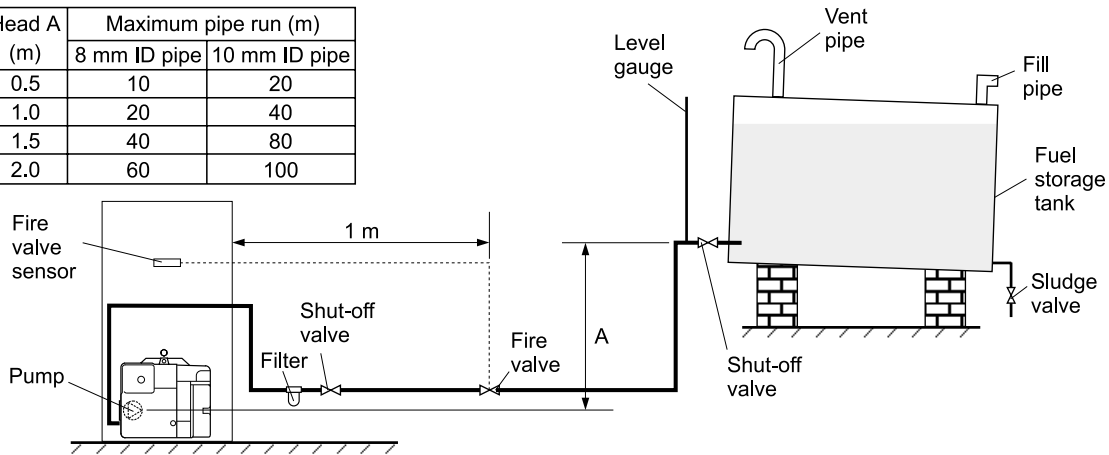

Fig. 2 - Single pipe system
3.3.3 Single pipe system - (See Fig. 2)